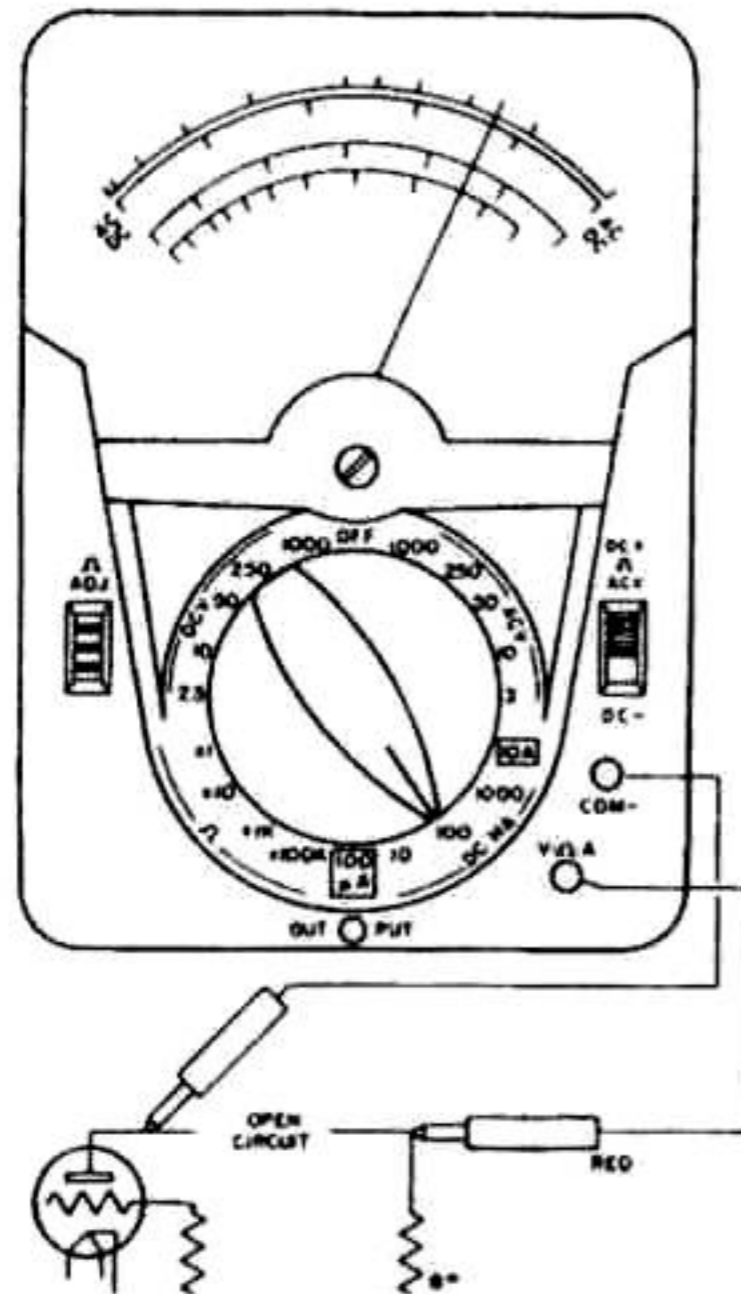

Fig. 3 Measuring DC Current
3. Connect the test probes in series with the circuit (use alligator clips) as shown in Fig 3.